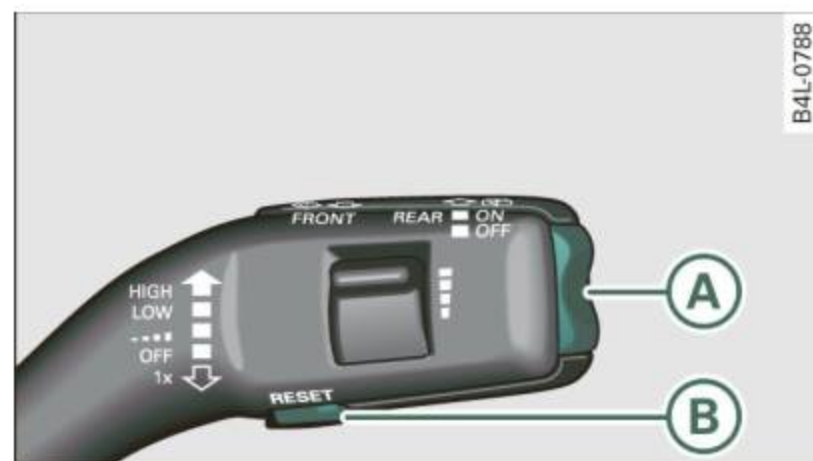

Fig. 11 Wiper arm/wiper lever: controls for the trip computer
You can switch between the trip computer 1 and 2 by pressing the **Reset** button  ⇒ page 22, fig. 11.
- Push in the upper (lower) protrusion on the function selector switch **A** ⇒ fig. 11. The functions for the trip computer are displayed in succession on the respective memory levels.
- Press the **RESET** button **B** ⇒ page 22, fig. 11 repeatedly until the efficiency program appears in the display.
- In the efficiency program, press the function selection switch \Rightarrow page 22, fig. 11 (A) repeatedly until the other equipment appears in the display.
- To turn a fuel economy message off immediately after it appears, press the **RESET** button \Rightarrow page 22, fig. 11 (B), or
- Press the function selection switch \Rightarrow page 22, fig. 11 (A).